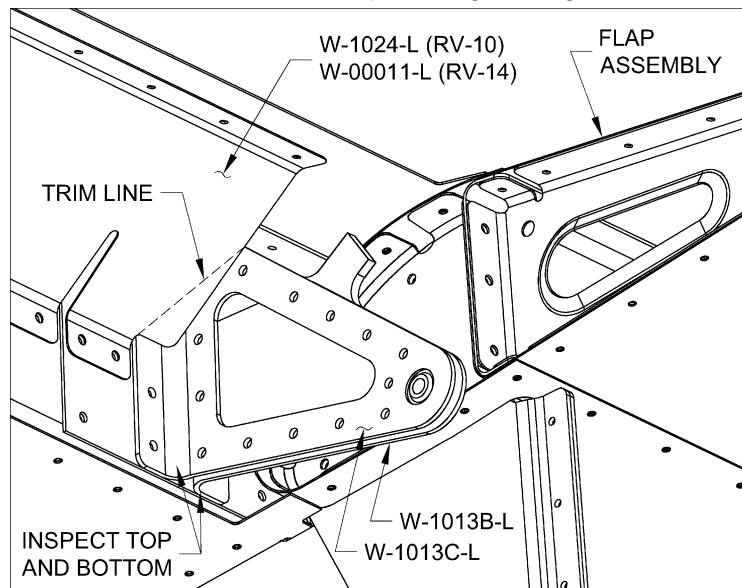

FIGURE 2: INSPECT AILERON HINGE BRACKET
Step 2 (RV-10 & 14 only): To gain access for inspecting the top of the W-1013C Aileron Hinge Bracket Sides, remove the ailerons from the wings as instructed in Step 3 and 4, then trim off the corner from the W-1024 / W-00011 Aileron Gap Fairings along the "TRIM LINE" shown in Figure 2.